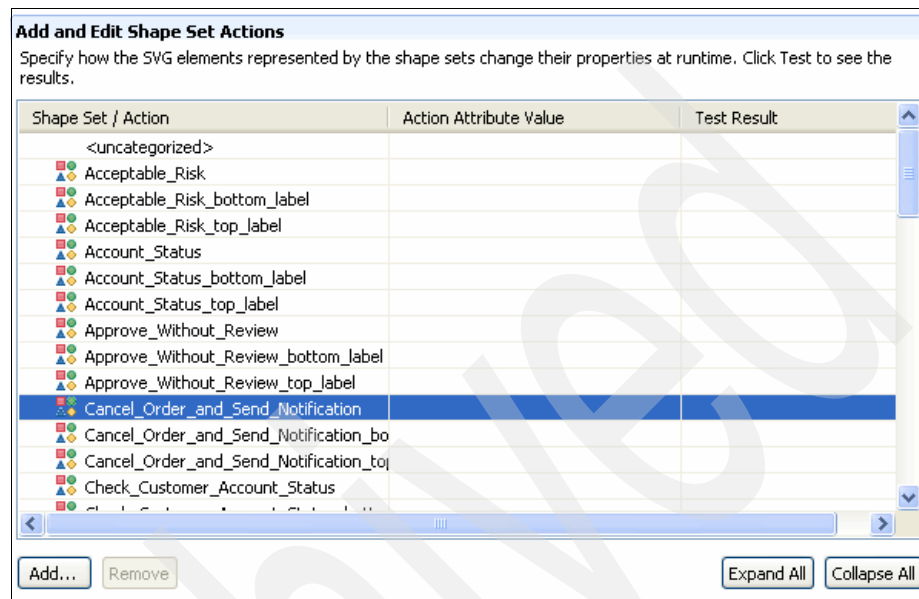

Figure 8-126 Finding the **Cancel_Order_and_Send_Notification** shape set
3. Scroll down to Add and Edit Shape Set Actions (Figure 8-126):